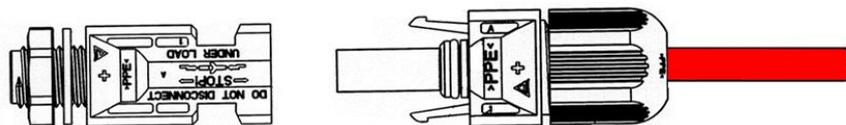
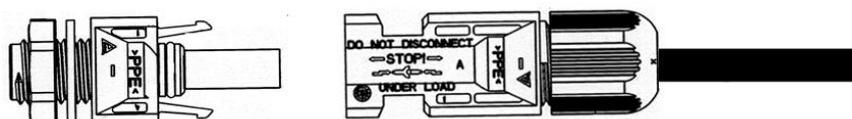

Figure4-14 Connect with the positive pole of DC input
Figure4-15 Connect with the negative pole of DC input.
Step 7 Insert the positive connector and negative connector into the ports marked with "+" and "-" in the inverter respectively. If there has a click sound, it means it have been inserted properly, as shown in Figure4-14 and Figure4-15.